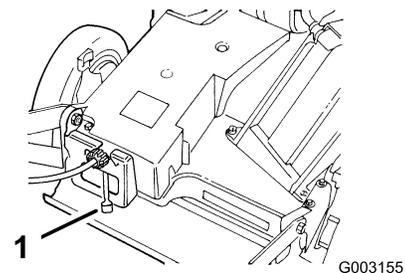

Figure 12
4. Move the ground speed control to the Neutral (N) position (Figure 12).
The lawn mower has 3 ground speeds. 1 is slow, 2 is medium, and 3 is fast. The ground speed control is located at the rear of the belt cover (Figure 12).